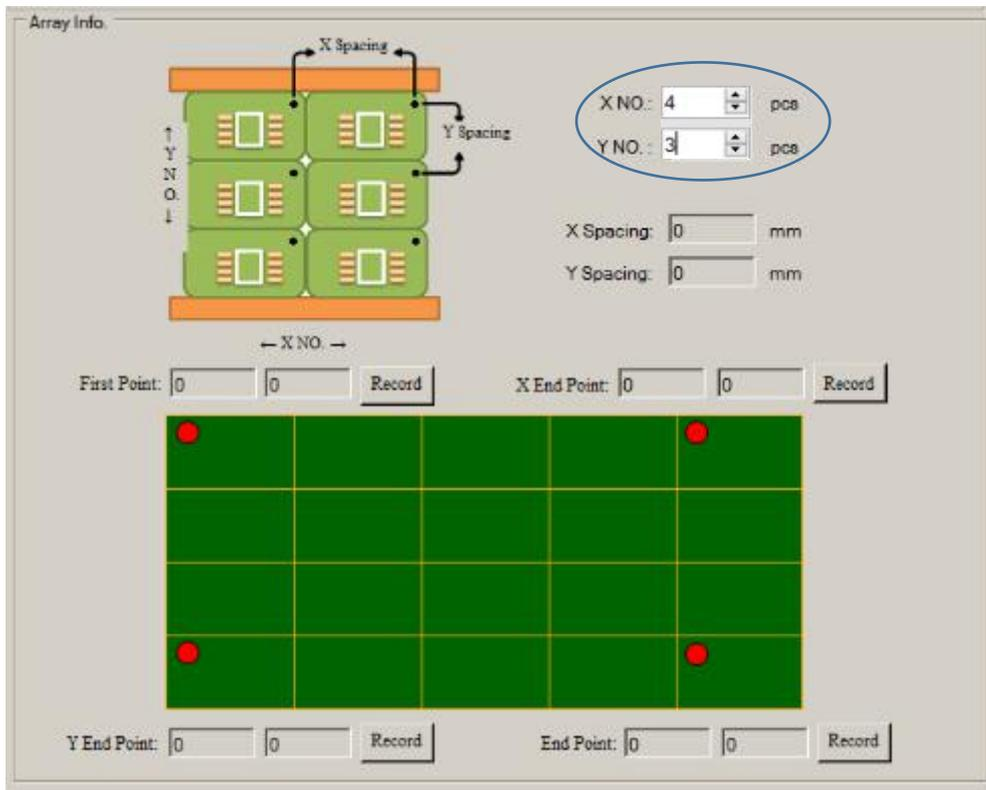

Figure 5-7-8
⑥ Due to make-up, after nozzle sorting, still need to array the rest boards, array set in the “Board: interface. Firstly input XY quantity of make-up, shown as Figure 5-7-8: